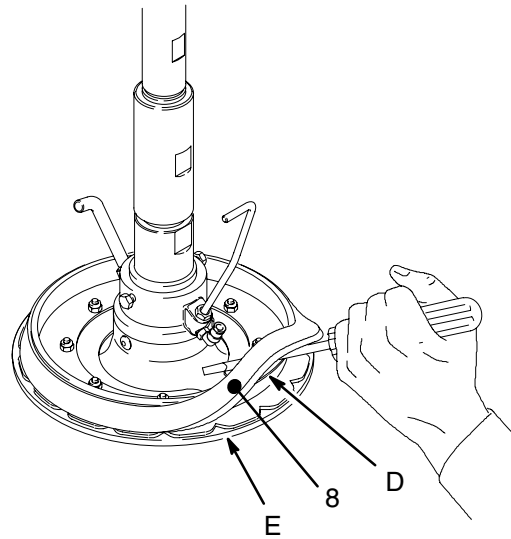
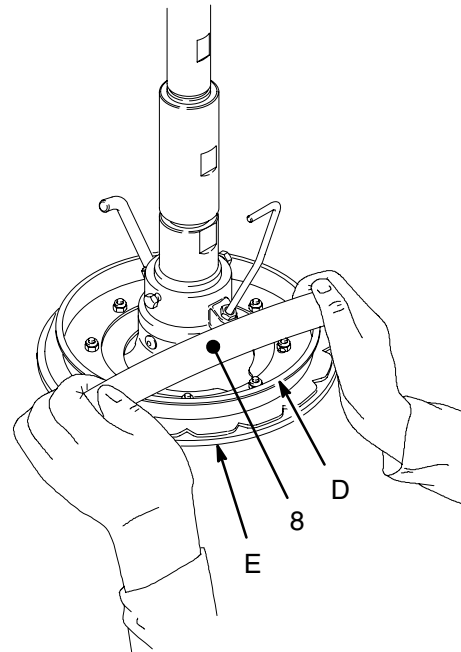

Fig. 14
Fig. 15
- a. **To use the wiper plate with straight sided pails**, the large spacer (8) must be inverted. *Working from the bottom*, use a screwdriver to pry the spacer loose. Work it upward so it is completely above the flange (D) of the wiper plate. See Fig. 14. Next, by hand, angle the spacer and work it off the plate, pulling it down over the flange and bottom wipers (E). See Fig. 15. Turn the spacer so the large diameter is facing **up**. Work the spacer up over the wiper plate by hand, so it is completely above the flange (D) of the wiper plate. *Working from the top*, use a screwdriver to position the spacer between the flange (D) and the wipers (E). See Fig. 16.
- b. **To use the wiper plate with tapered pails**, the large spacer (8) must be removed. *Working from the bottom*, use a screwdriver to pry the spacer loose. Work it upward so it is completely above the flange (D) of the wiper plate. See Fig. 14. Next, by hand, angle the spacer and work it off the plate, pulling it down over the flange and bottom wipers (E). See Fig. 15. Save the spacer, as it is required for other applications.
- 1 To use Model 222909 Plate with a tapered pail, the spacer (8) must be removed. See page 12, and Figs. 14–16.